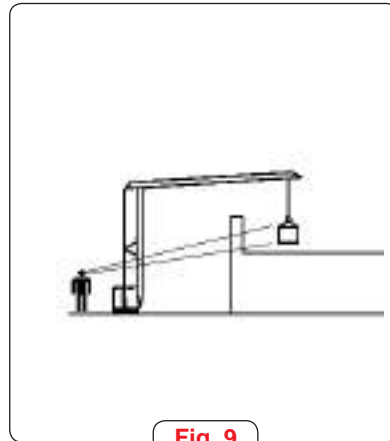

Fig. 9
17. A signal man must direct the operation if lack of view is due to physical obstacles. (Fig 9)